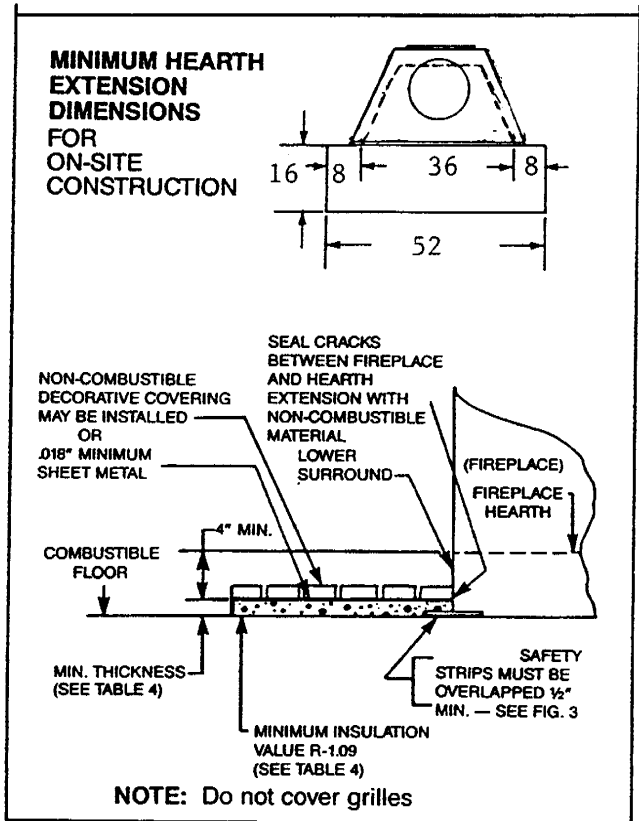

FIGURE 23
A hearth extension is required to protect combustible floor construction in front of the fireplace. Use a Hearth Extension design built in accordance with Fig.23.
The hearth extension described in Fig. 23 must be a durable non-combustible material with a minimum (total) RT value of 1.09. (See Table 4 for examples.) The overall height (above combustible floor), depth and width must be as indicated with it centered to the fireplace opening. (See Fig. 23.)
The top of the insulation must be covered with a non-combustible decorative covering or a piece of .018" minimum sheet metal, to protect the hearth extension material. (See Fig. 23).
Secure the hearth extension to the floor to prevent shifting, using trim molding or other similar means at the three (3) outer edges. Seal the crack between the fireplace hearth and the hearth extension with non-combustible material. (See Figs. 23, 24 and 25.)
**WARNING: HEARTH EXTENSION MUST BE INSTALLED IN ACCORDANCE WITH FIGS. 23, 24, or 25 AND MUST NOT COVER THE GRILLE OPENING OF THE MODEL.**